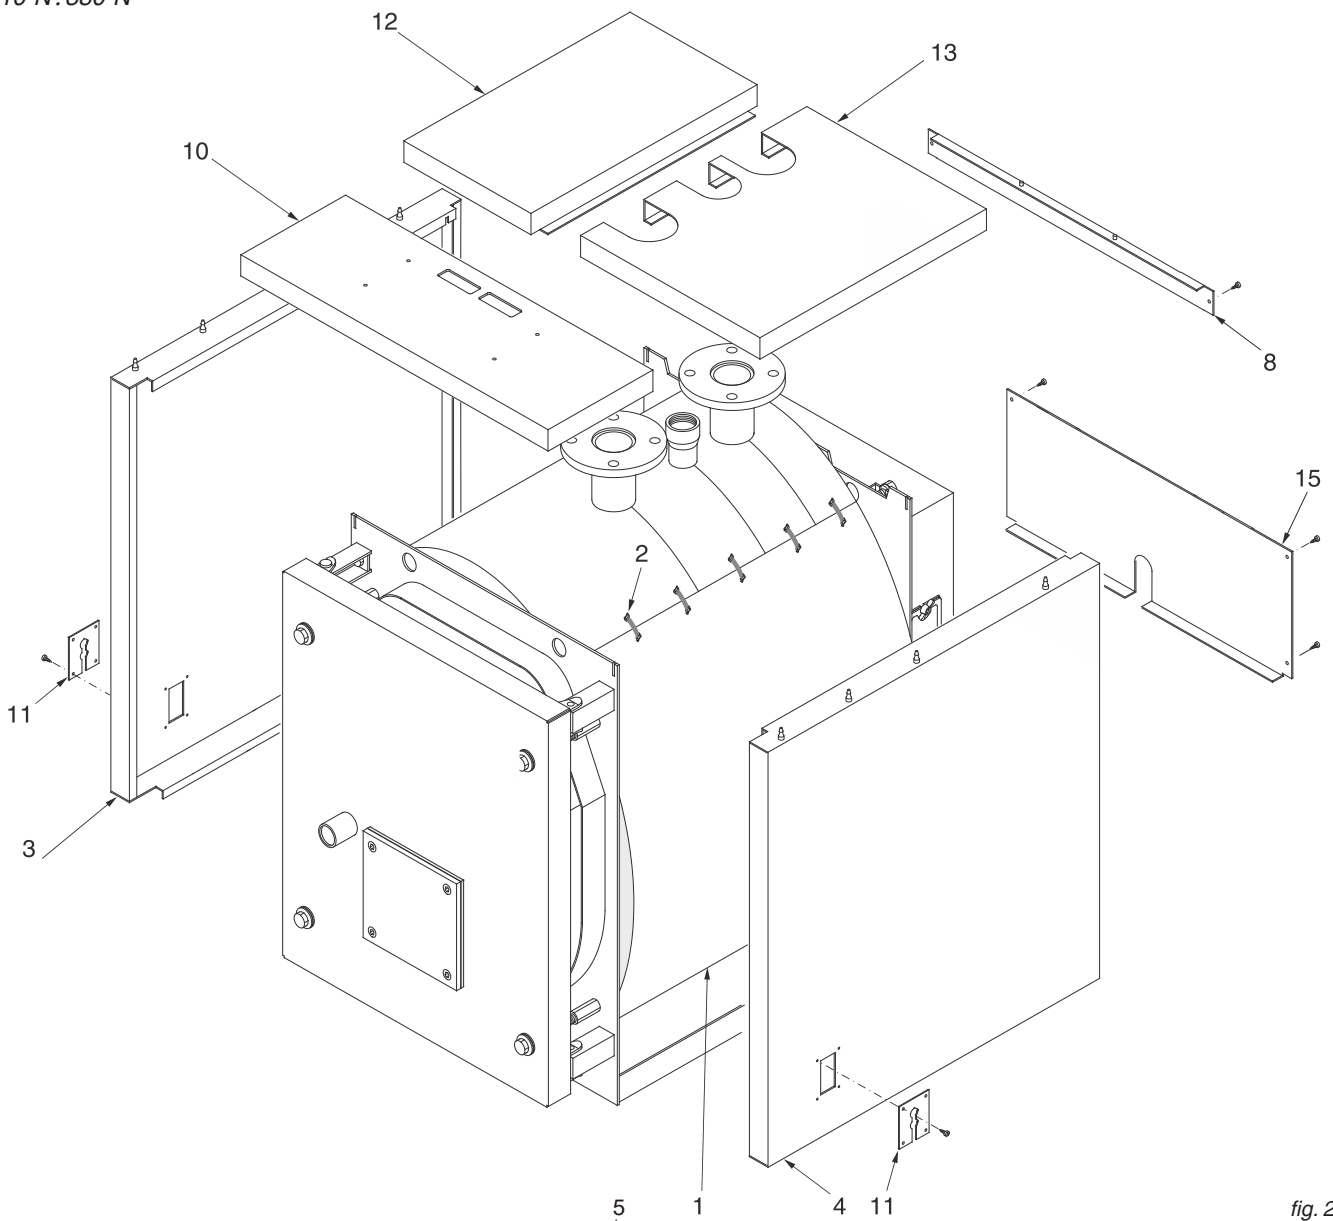

fig. 26
N.B. For models from **110-N** to **380-N** (ref. fig. 26 and 27), the casing and insulation are contained in 1 box marked:
Assembly sequence (Ref. fig. 26 and 27)